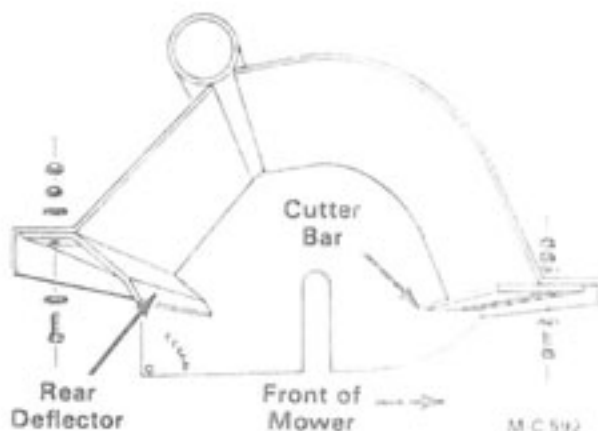

Figure 15
1. The adjustable cutter bar is located under the front stiffner bar of the mower body, see Figure 15. There is one cutter bar on the Model 5HD & 7HD, two on Models 8HD & 10HD and three on Model 12HD.